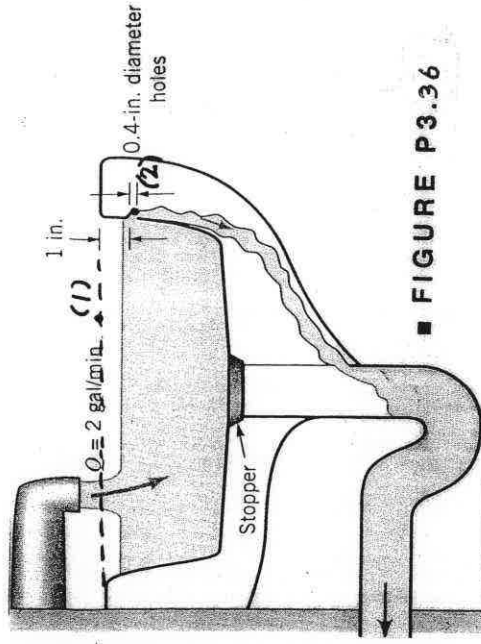

FIGURE P3.36
3.36 Water flows into the sink shown in Fig. P3.36 and Video V5.1 at a rate of 2 gal/min. If the drain is closed, the water will eventually flow through the overflow drain holes rather than over the edge of the sink. How many 0.4-in.-diameter drain holes are needed to ensure that the water does not overflow the sink? Neglect viscous effects.